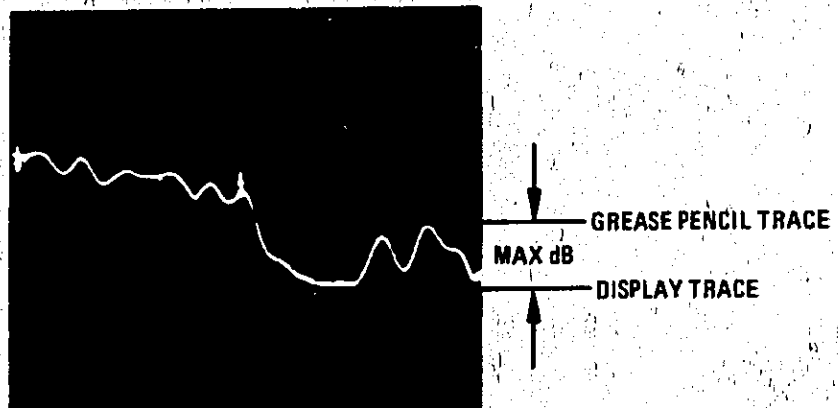

Figure 10. Reflection Frequency Response Magnitude
- (3) Measure the maximum difference between the grease pencil trace and the display trace (Figure 10). This measured value should be ≤ 1.5 dB for the entire 0.5 to 1300 MHz frequency range.